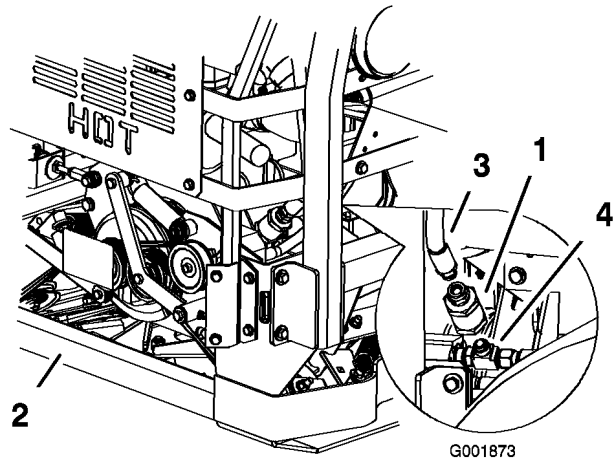

Figure 74
1. Place drain pan under filter, remove the hydraulic hose from the filter (Figure 74).
2. Remove the cooling fan hydraulic filter from the T-fitting on the bottom of the filter (Figure 74).
3. Install the filter to the T-fitting on the bottom and the hydraulic hose to the top (Figure 74).